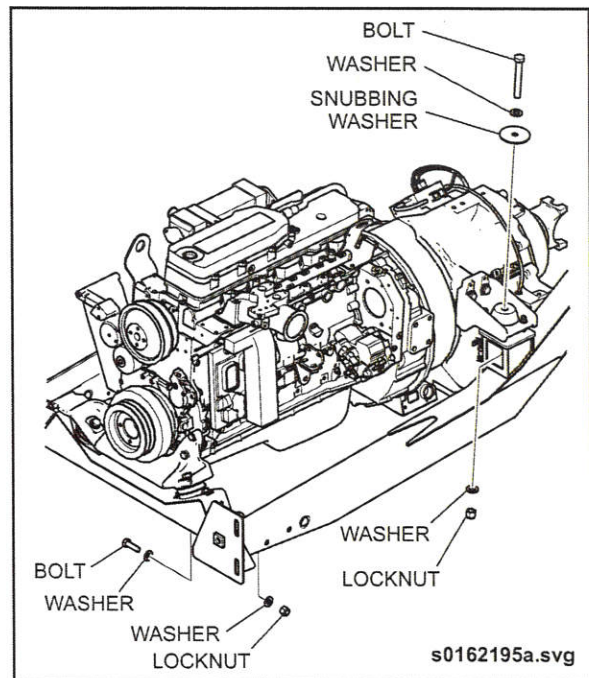

Fig. 4-4: Engine & Traction Motor Mounts
23. Remove the 3/4" bolt, nut, and washers that attach the LH & RH engine/traction motor side rubber mounts to the vehicle main frame rail. See "Fig. 4-4: Engine & Traction Motor Mounts" on page 6.